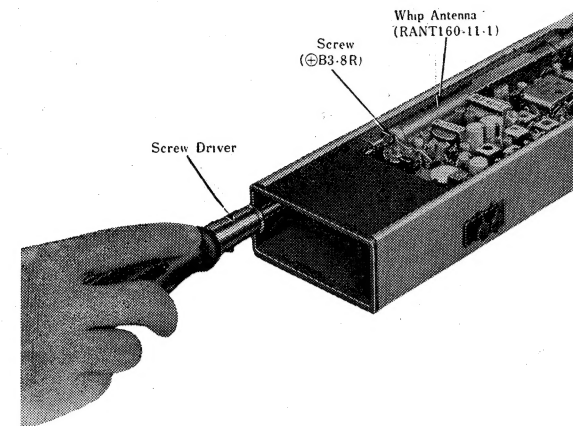

Fig. 3
4. Remove red whip antenna mounting screw as illustrated in Fig. 3.